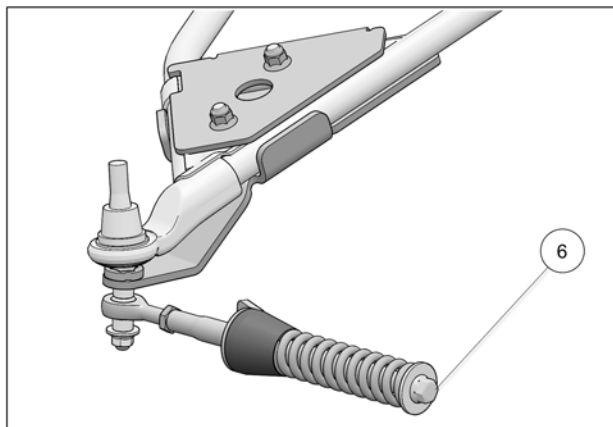

Fig. 20
10. Verify that spring assembly bolt (6) is tightened to the recommended torque specification: 75 N•m [55 lb•ft]. Refer to Fig. 20